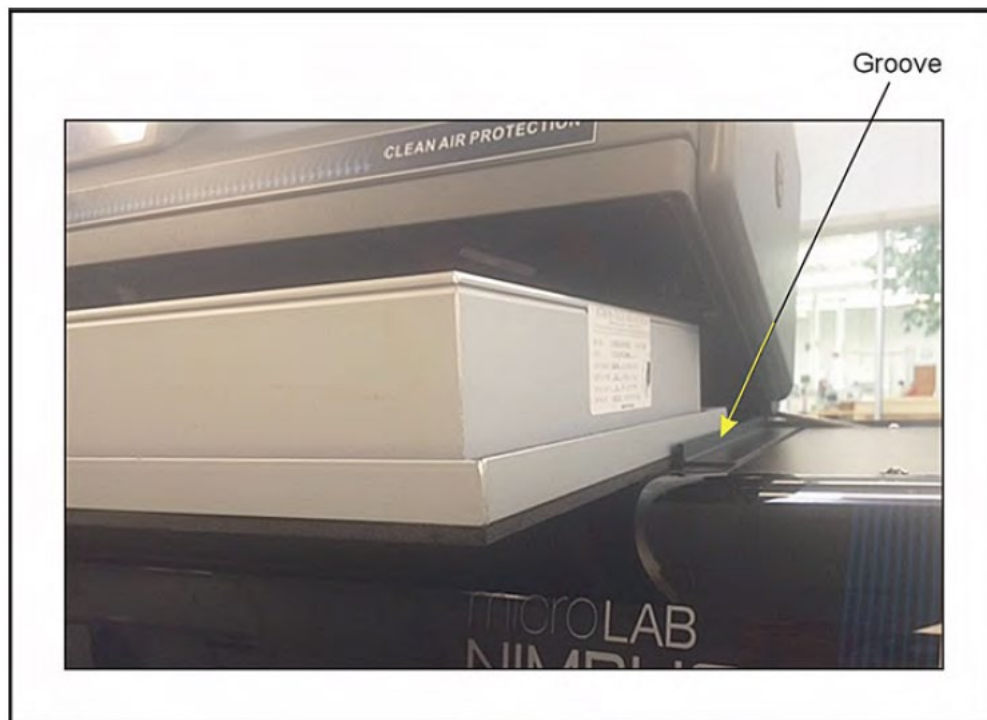

Figure 29. Sliding HEPA Filter in Against Groove
4. Using the Groove, slide the HEPA filter into place (Figure 29).